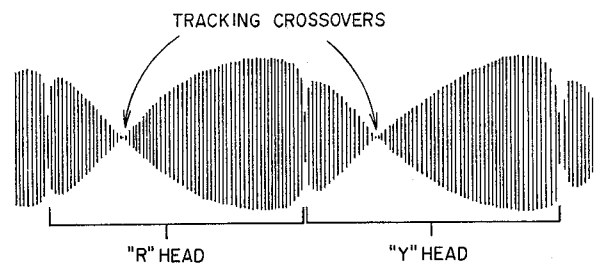
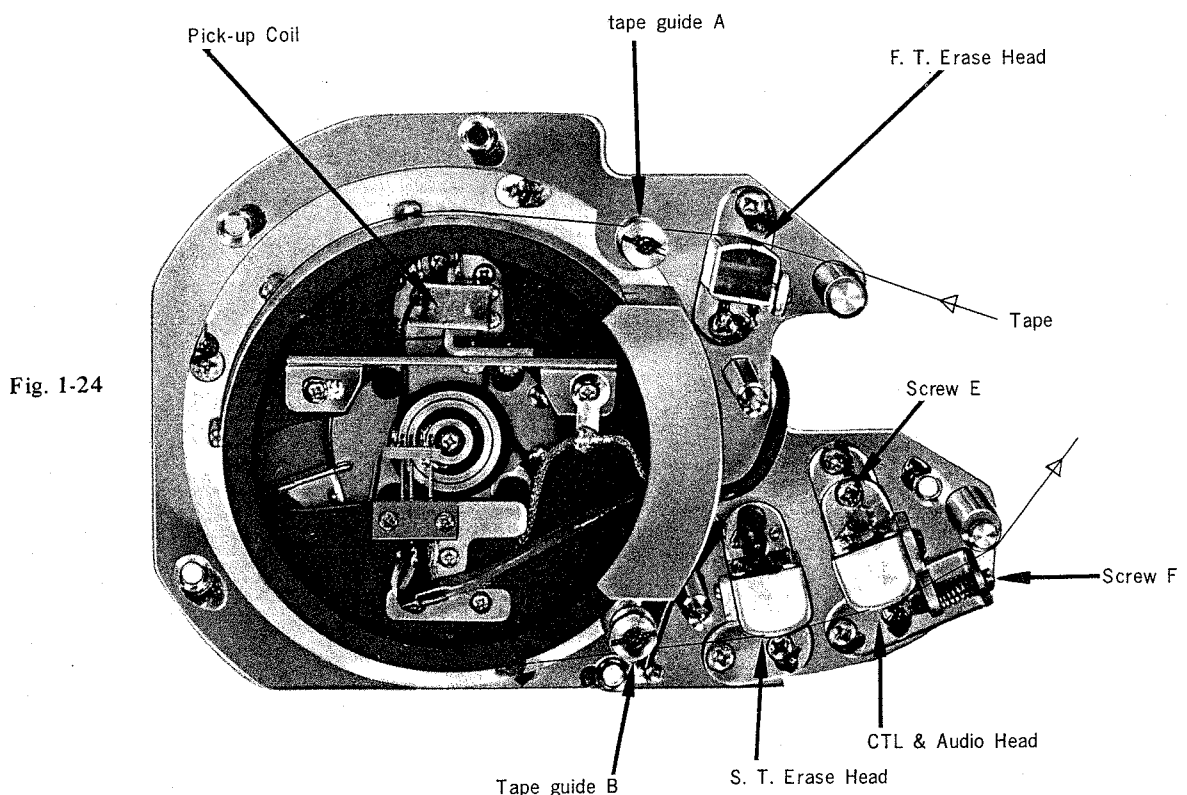

Fig. 1-23 RF Envelope with Guiding Error
Fig. 1-24
- d) If tracking cross-over appears on R.F. Envelope as shown in fig. 1-23, adjust height of both tape guide (A) and tape guide (B).
- f) When the tape movement is perfectly adjusted, there is a small uniform space between the bottom part of the tape guide and the tape (tape guide (A) as well as tape guide (B)).
- g) While tape is travelling, in case of up and down movement of the tape at the surface of side track erase head or control head, it is also necessary to adjust the height of tape guide (B) as well as the slant of the side track erase head.
- h) After the above-mentioned adjustments have been carefully completed, if amplitude of R.F. Envelope fluctuates and R.F. Envelope shape is not square, put a 0.2 mm shimming washer between the center part the video head assembly and the sub chassis and re-adjust the height of tape guides (A) and (B).
- i) (Ref. fig. 1-24). Loosen screw "E", and with screw "F", adjust control head position so that maximum R.F. Envelope amplitude is attained.